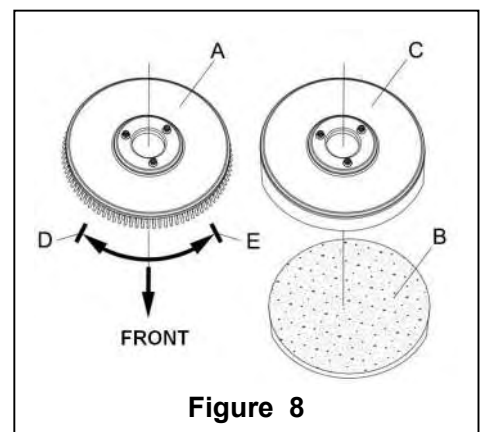

Figure 8
According to the type of floor to be cleaned, the machine may be installed with brush (Figure 8, A), or a pad-holder (Figure 8, B and C).
- (Only applicable to **AS430B** and **AS510B**): make sure the switch (41) is at the disconnecting (**O**) condition.
- Press down the handlebar (2) to lift the tank body (26).
- Put the brush (A) or the pad-holder (B – C) under the case.
- Use the handlebar (2) to lower the tank body (26) to come into contact with the brush or pad-holder.
- To install the brush/pad-holder automatically, turn the power switch (41) to the “**I**” position and press down the safety switch (1). Gently push the machine forward so as to allow the belt wheel at the bottom of the tank body to align with the brush or pad-holder which can then be installed. Then release the safety switch. If necessary, repeat this procedure until the brush/pad-holder is installed.
- If Step 5 above proves to be difficult, use the manual method by following the arrow head (D) to install the brush/pad-holder (as shown in **Figure 8**).
- To automatically unload the brush/pad-holder, turn the power switch (41) to the “**O**” position. Use the hand to hold the handlebar, and press the machine downwards until the guide wheel touches the floor and the brush/pad-holder hangs in the air. Turn the power switch (41) to the “**I**” position, and press down the safety switch to let the brush or pad-holder turn until the brush/pad-holder drops to the floor.
8. If Step No. 7 above proves to be difficult, use the manual method by turning the brush/pad-holder in the direction opposite to the normal turning direction, and it can be taken off. (as shown in **Figure 8**)